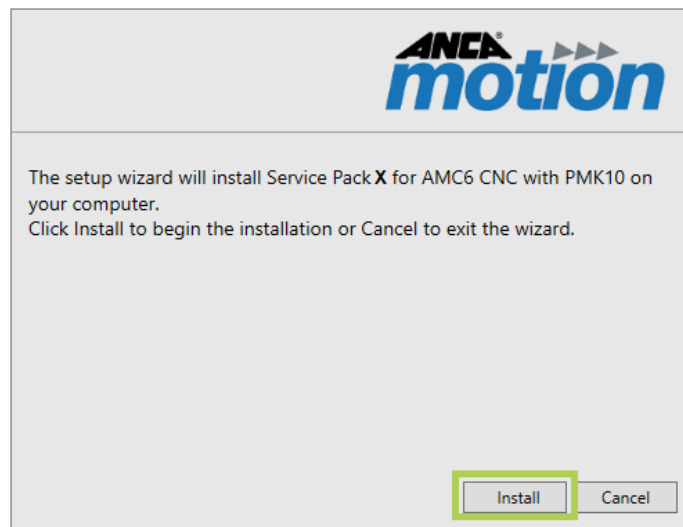
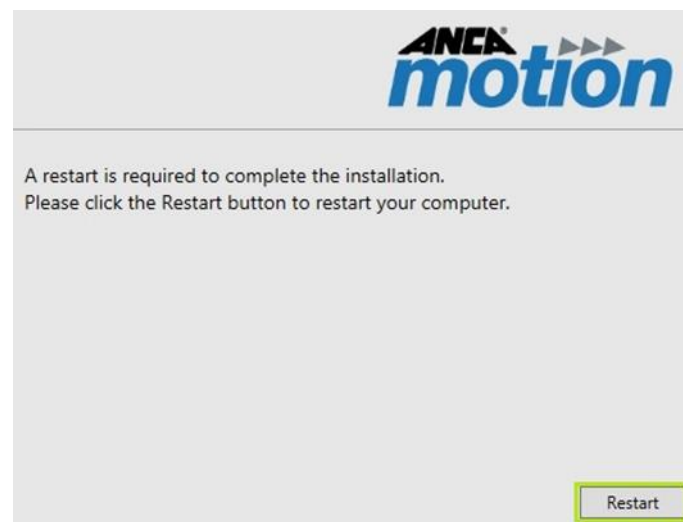

Figure 7 – Installation
Figure 8 - Installation finish
4. And then a “Dialog Box” is displayed as shown in Figure 7, click “Install” button to start. After the installation process is finished another “Dialog Box” is displayed as shown in Figure 8. Please click “Close” button to complete installation.